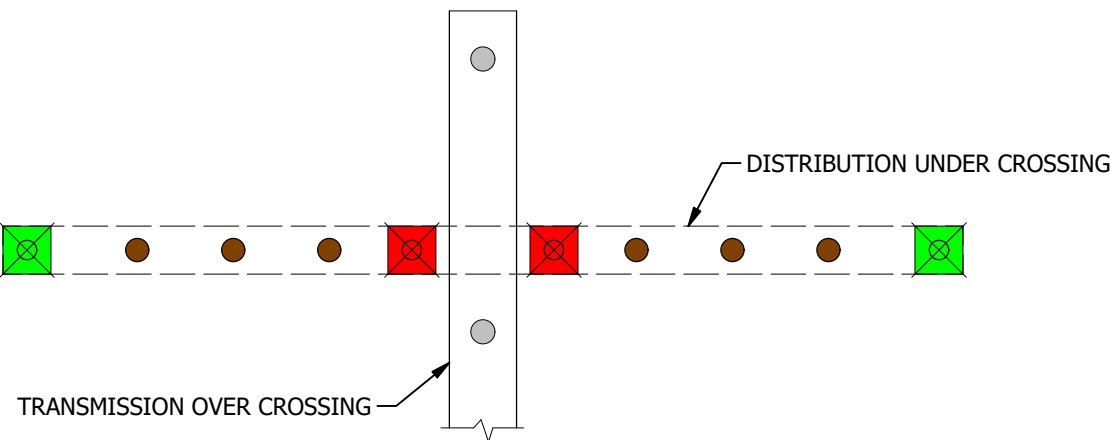

FIGURE 3
- A CROSSING MARKERS TO BE PLACED ON POLE TOP. A WARNING (RED) CROSSING MARKER SHALL BE PLACED ONE SPAN LENGTH AWAY FROM WHERE A CIRCUIT/TL CROSSES OVER THE TOP OF ANOTHER CIRCUIT/TL. AN INDICATION (GREEN) CROSSING MARKER SHALL PRECEDE A WARNING CROSSING MARKER BY FOUR SPANS. SEE FIGURE 3.
- (B) POLE ID NUMBER SHALL BE NOTED VERTICALLY ON BOTH SIDES OF THE CROSSING MARKER FRAME.